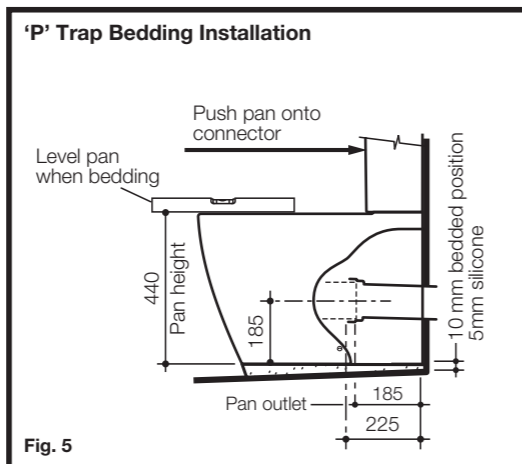

Fig. 5
- 2- Determine set-out "A" of existing pan connector, as detailed in Fig. 2. Set-out range 60mm - 200mm. Recommended set-out 140mm, as detailed in Fig. 3. For 'P' trap installation see Fig. 5.